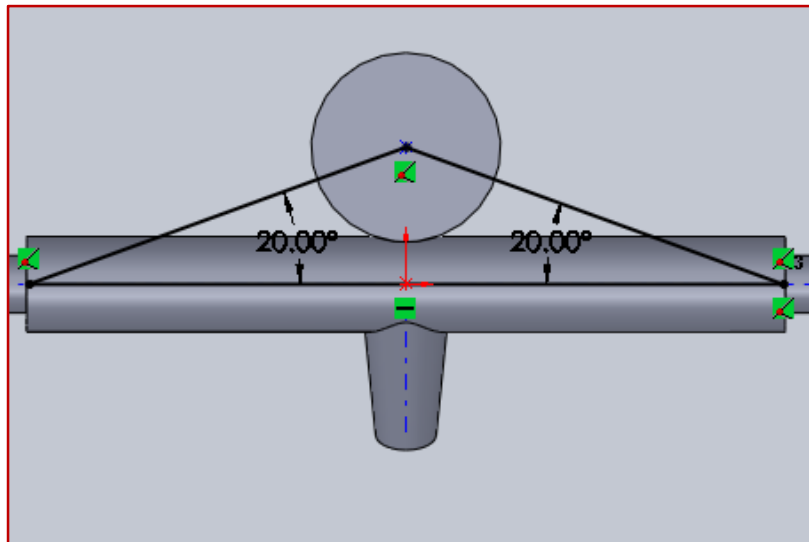

Figure 7.8 – Sketch for Stiffener
- ✓ Click **Top Plane** and sketch the triangle in Figure 7.8.